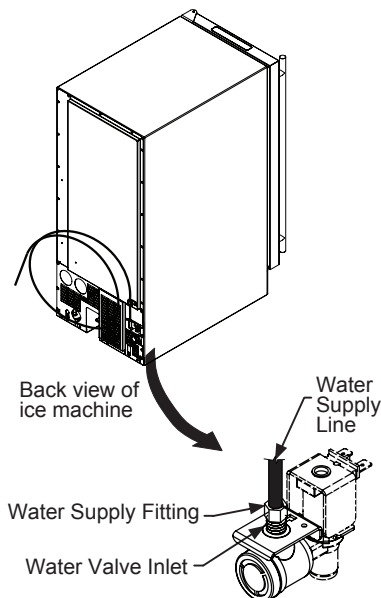

Figure 2
2. Disconnect the water supply fitting at the inlet of the water valve (Figure 2).